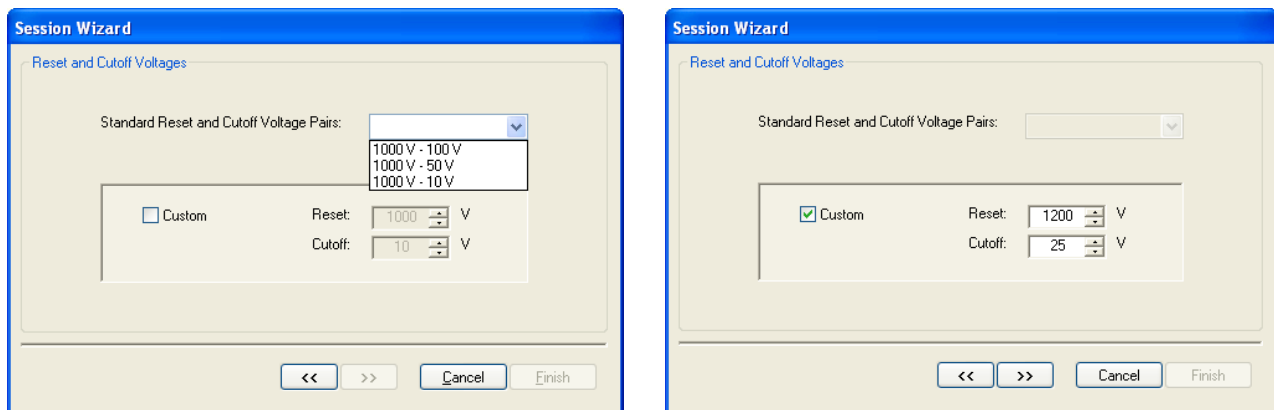

Figure 12: Check the Custom Box and Manually Enter Reset and Cutoff Voltages
- a. Standard Reset and Cutoff Voltages are (See Figure 12):
- b. Check the Custom Box to enter any two voltages for evaluation. Figure 12.